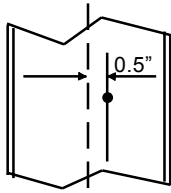

Figure 3-6: Drill Mounting Hole
1. Fig. 3-6. Mark position of beam axis and of drill template mounting hole.